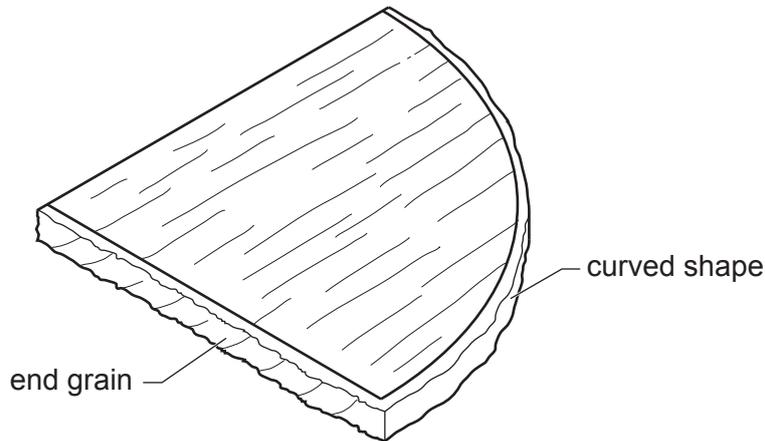

Fig. 13.4
- (d) Fig. 13.4 shows one of the end pieces after it has been sawn to the required shape.